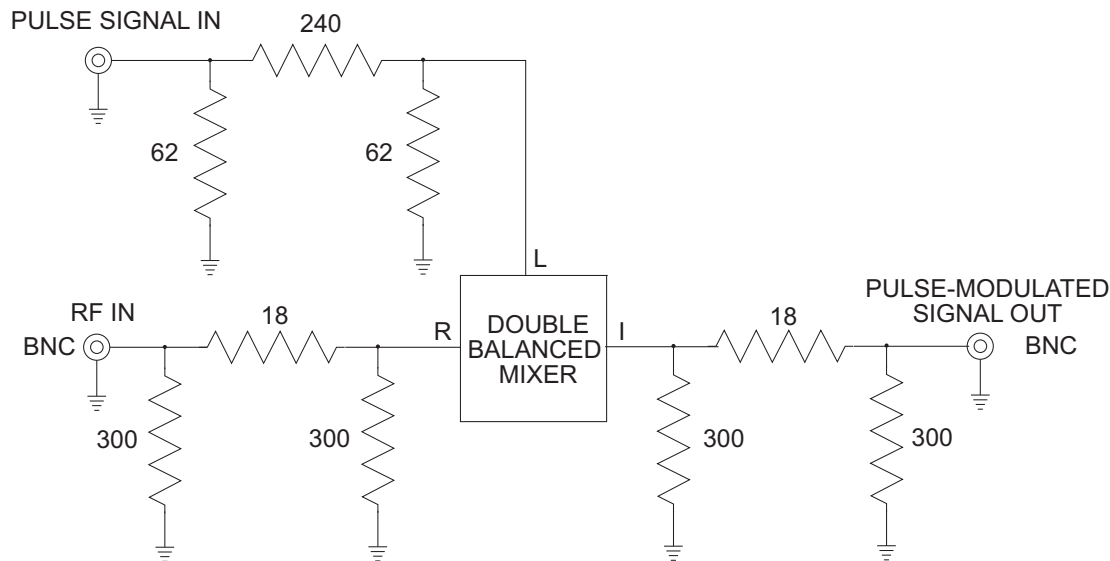

Figure 6-1. Pulse Modulator
1. Because of the lack of adequate equipment for testing narrow pulses below 0.8 GHz, a special 0.25 to 1 GHz modulator must be fabricated to test the counter accurately in these ranges. In cases where full capability testing is not necessary, the instrument may be tested using substitute equipment. The pulsed modulator shown in Figure 6-1 can be used for testing Band 1 pulsed capabilities. If it is not necessary to test pulse widths of less than 100 ns, the pulse modulation capabilities of the Agilent 8340B are sufficient to test the counter. If another modulator is used, extreme care must be taken to prevent phase distortion of the pulse by the modulator.
In Figure 6-1, all resistor values are in ohms, and the double balanced mixer is a Mini Circuits TFM-2.